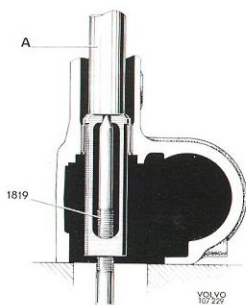
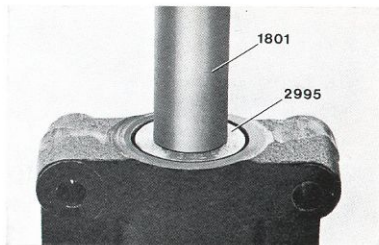

Fig. 6-83. Removing needle bearing
Fig. 6-84. Fitting needle bearing
3. Check the needle bearings in the housing and the cover for damage. Replace if necessary. For removal, use tool 1819 (Fig. 6-83) and for pressing in, drift 2995 and handle 1801 (Fig. 6-84).